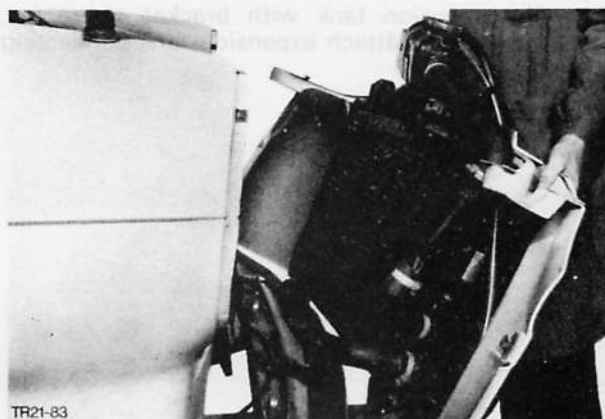

Fig. 34. Install radiator grille panel complete with radiator, connecting pipe and expansion tank
38. Insert radiator grille panel complete with radiator and expansion tank and secure, Fig. 34. Fit both headlamp surrounds.